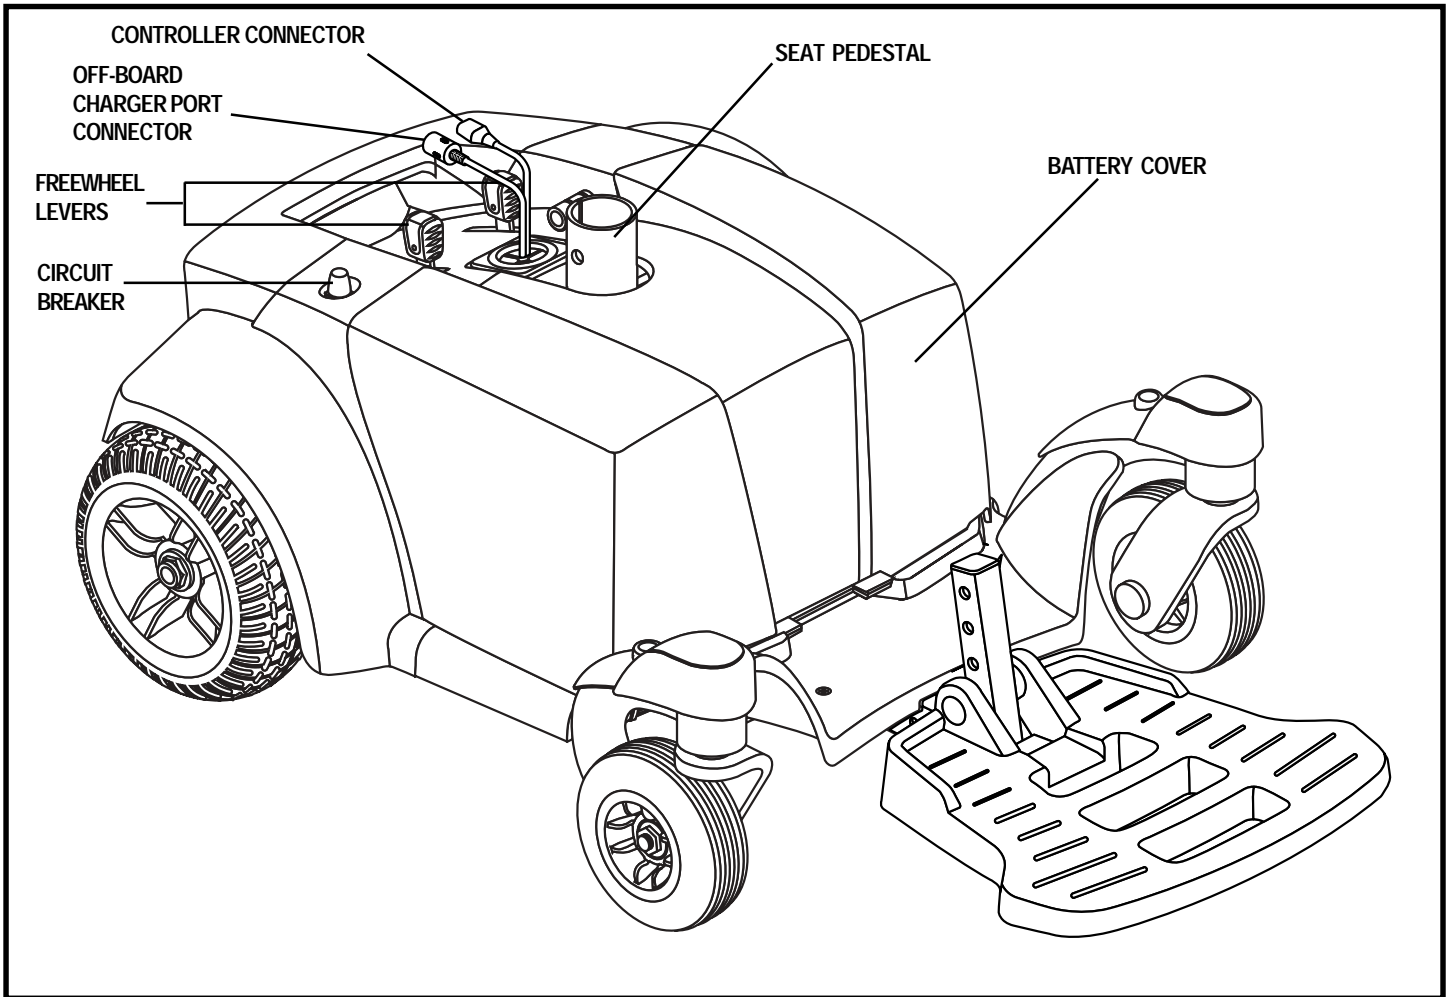

Figure 6. The Select Traveller Power Base
The electrical components are located on the power base. The main circuit breaker is located toward the rear of the power base. The controller and charger connectors are located on the rear of the power base. See figure 6.
5. Plug the controller and off-board charger port cables into the connectors on the power base. See figures 6 and 9.